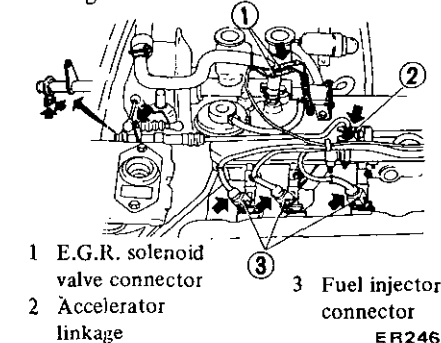

Fig. ER-4 Disconnecting accelerator linkage
11. Disconnect accelerator linkage. See Figure ER-4.
- Wire for E.G.R. solenoid valve and electric fuel injector. See Figure ER-4.